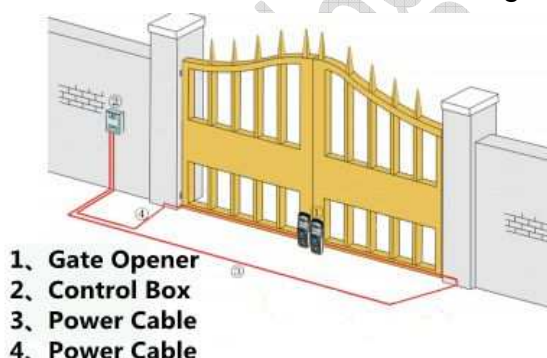

Fig.2
2. Control and power distribution structure, as shown in Fig.2
4. Bury the wire pipes with reference to the wiring diagram of the power distribution system of the gate opener(Fig.2) and determine the diameter and number of cores of multi-strand flexible wires(power cables).